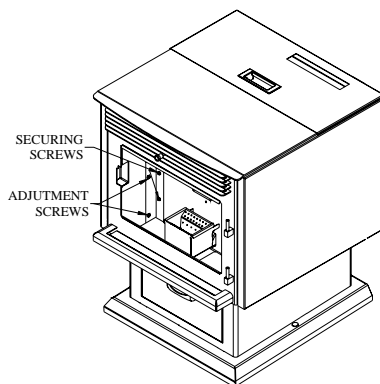
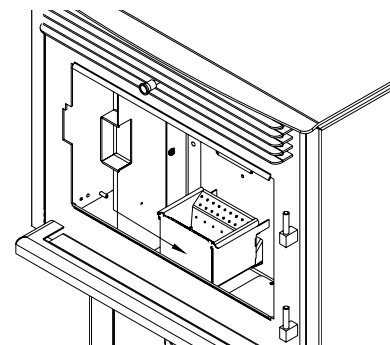
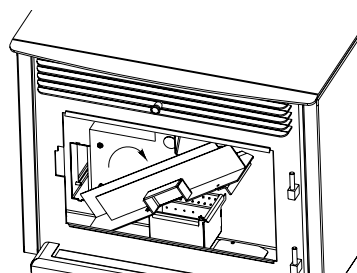
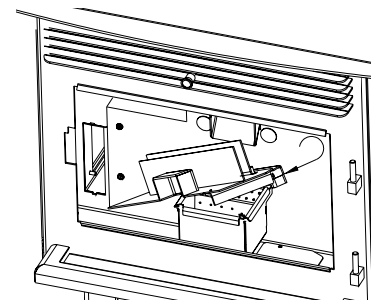

Figure 44
Figure 45
Figure 46
Figure 47
- c. **Chamber walls**: Periodically, you must vacuum the ashes that may have accumulated on the main walls of the combustion chamber. **START BY REMOVING THE DECORATIVE MASONRY-LIKE PANELS, WHICH ARE SIMPLY HELD BY CLIPS.** The use of a vacuum is necessary. There is also a cleaning outlet located behind the left side panel of the combustion chamber. Remove this panel using a screw driver. Loosen the adjustment screws then remove the securing screws(Figure 44). Slide the wall toward right(Figure 45), tilt it (Figure 46) then remove it from the combustion chamber. Scrape off ashes. You will notice a small rectangular cleaning outlet. Inspect behind this outlet (see Figure 47) Insert the vacuum tip through the cleaning outlet and clean thoroughly. **REPEAT THIS OPERATION AT LEAST ONCE PER TON OF PELLETS BURNED UNTIL YOU ARE FAMILIAR WITH HOW ASHES ACCUMULATE WITH YOUR OPERATING PRACTICES.**